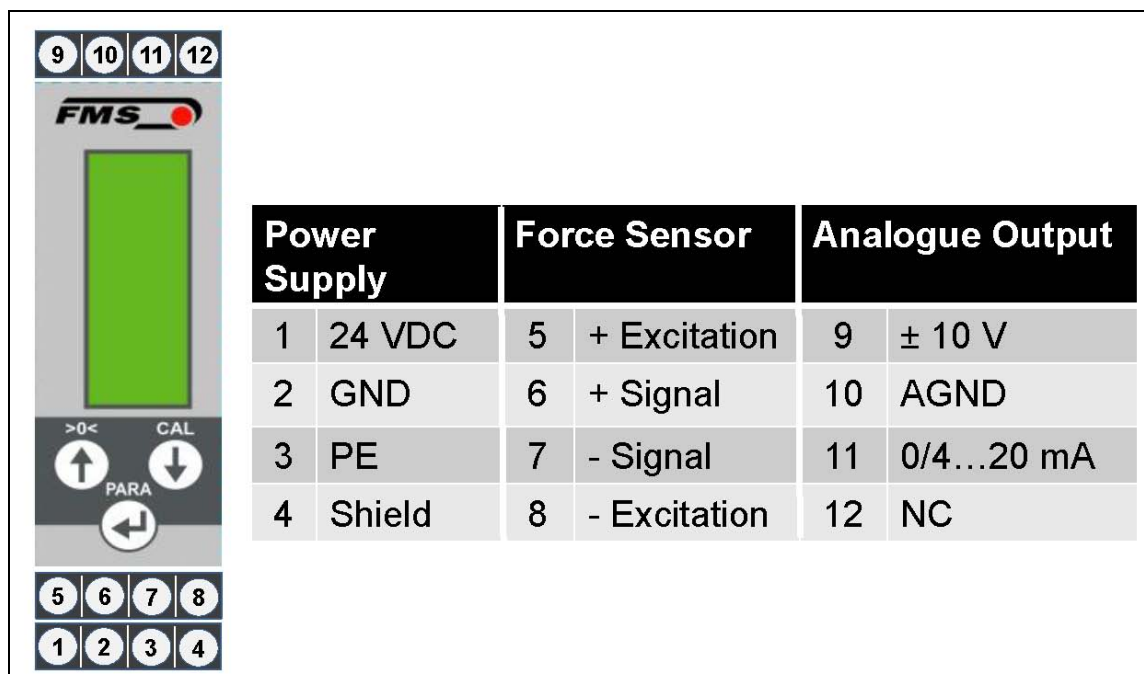

Fig. 2: Wiring of EMGZ 310
1. Connect the first force sensor (see **Fig.2 Wiring Diagram EMGZ310**)